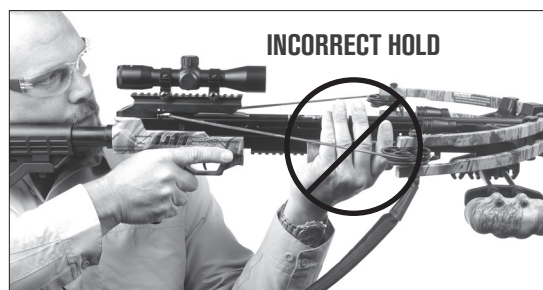

FIGURE 21
**AVERTISSEMENT :** NE PLACEZ JAMAIS DES PARTIES DE VOTRE CORPS (Y COMPRIS VOS MAINS OU VOS DOIGTS) DANS LA TRAJECTOIRE DE LA CORDE OU DES CÂBLES DE L'ARBALÈTE. PLACEZ VOTRE MAIN AVANT SUR LE GARDE-MAIN DE LA CROSSE EN DESSOUS DE LA TRAJECTOIRE DE LA CORDE ET DES CÂBLES EN TOUT TEMPS (VOIR FIG. 21). LE NON-RESPECT DE CET AVERTISSEMENT PEUT CAUSER DES BLESSURES GRAVES OU LA MORT.